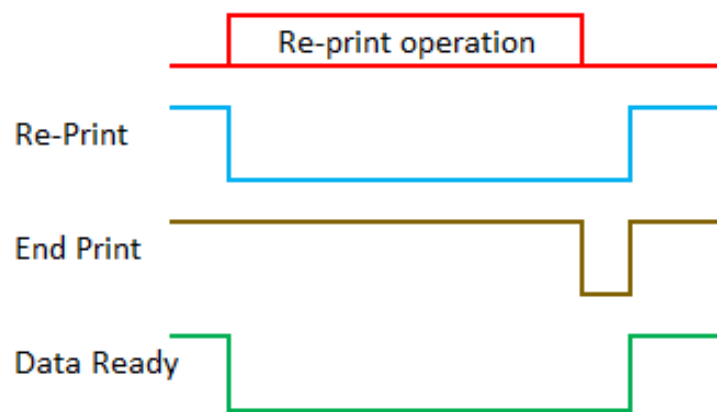

Figure 7
- d. The timing chart is shown in Figure 7.